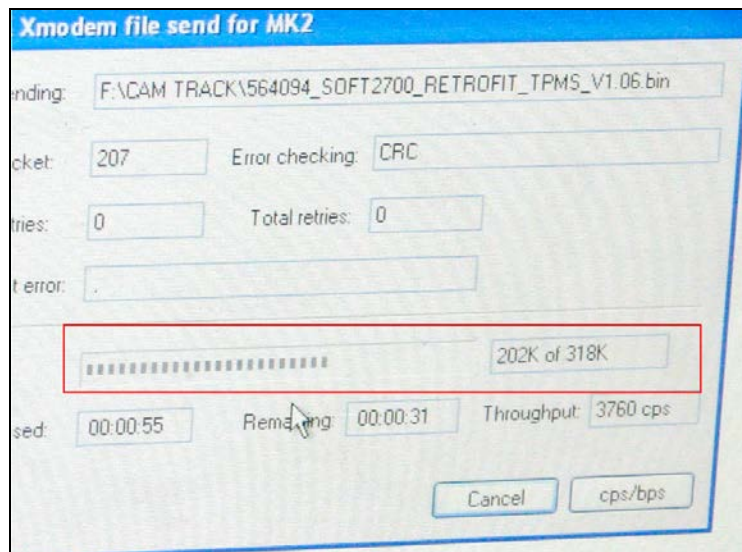

Fig.25
9. To start the download procedure, click on Send within the HyperTerminal Send file box, the download screen will appear, showing the download progress (Fig.25).